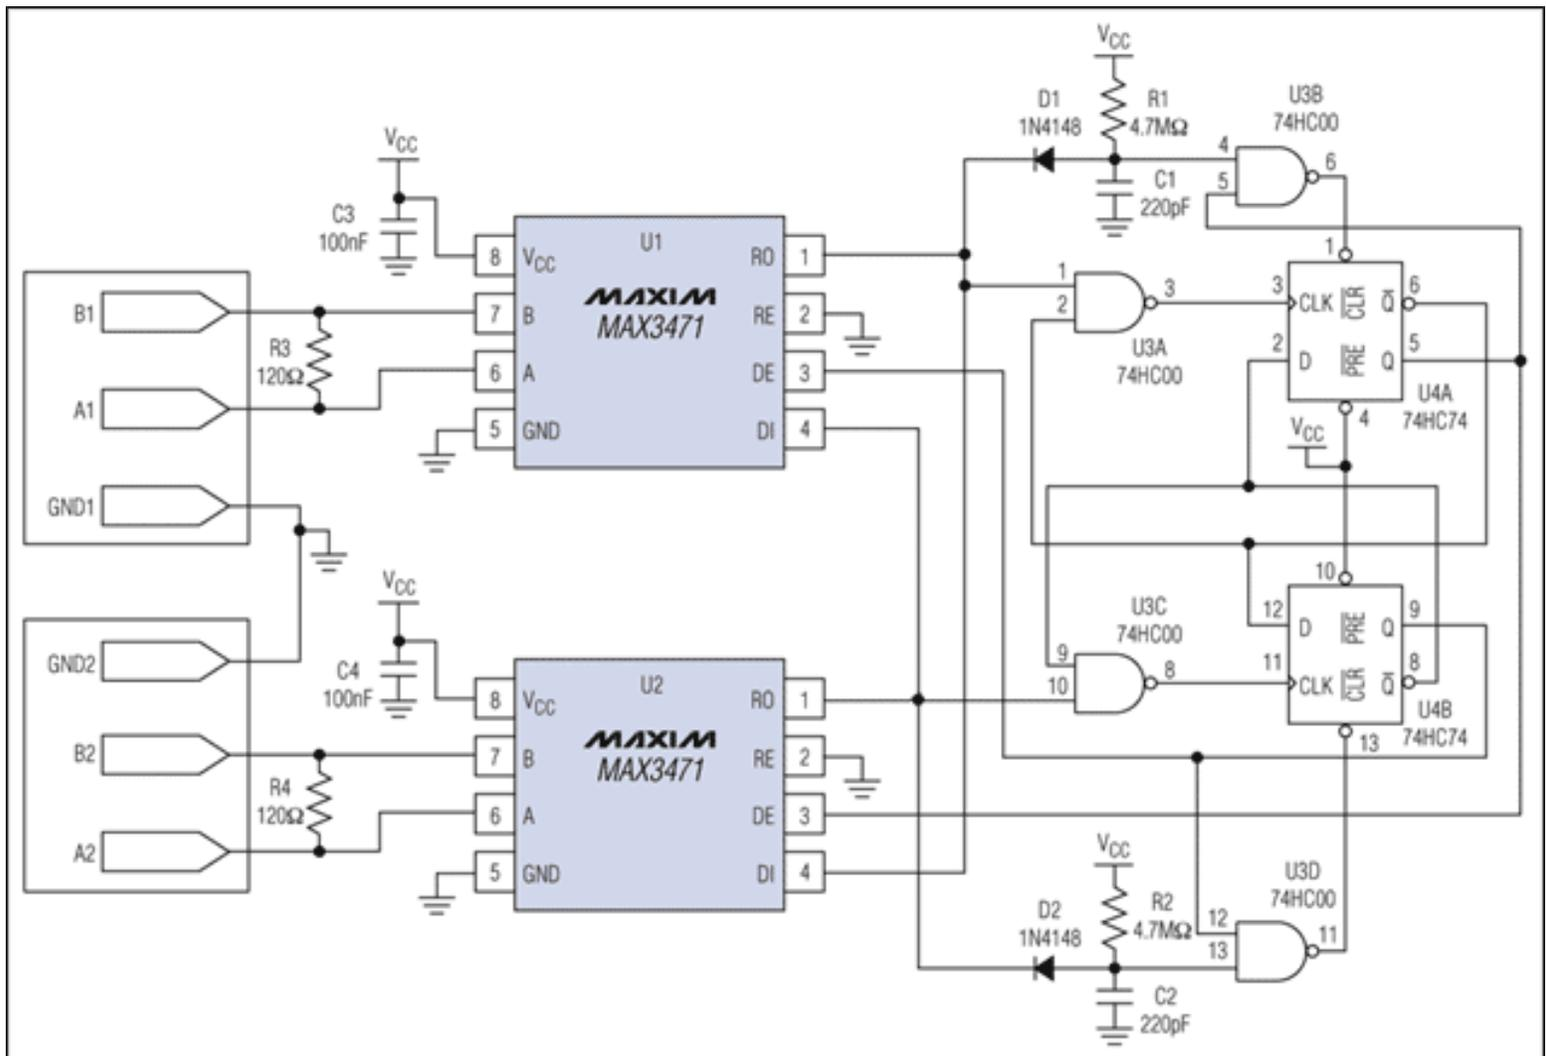

Figure 1. This RS-422 repeater draws only 3µA of standby current.
Abstract: The RS-422 interface is an excellent choice for communicating in noisy environments and over a distance. But, when the distance exceeds the RS-422 capability for reliable data transfer, you must add a repeater. The repeater circuit of Figure 1, which must operate from batteries when no power supply is available, draws less than 3µA of current from a 3V supply.
The RS-422 interface is an excellent choice for communicating in noisy environments and over a distance. However, when the distance exceeds the RS-422 capability for reliable data transfer, you must add a repeater. The repeater circuit in **Figure 1**, which must operate from batteries when no power supply is available, draws less than 3µA of current from a 3V supply.
Low standby power and true fail-safe operation are the key features in this application. U1 and U2 drive their receiver outputs (RO) high when the RS-422 inputs are open circuited or terminated and undriven. An incoming data byte on the differential inputs A1 and B1 forces a transition on RO of U1, and a state machine (right half of the Figure 1 schematic) is latched ON by the falling edge of RO. The state machine asserts a high level at U2's driver-enable pin, causing the incoming data byte to be retransmitted from U2 at full RS-422 levels.
An incoming data burst (**Figure 2**, top) is retransmitted as outputs A2 (bottom trace) and B2 (middle trace). U2 de-asserts those outputs 700 μ s after the final transition. Other delays can be implemented by adjusting R1/C1 and R2/C2 as shown in Figure 1.